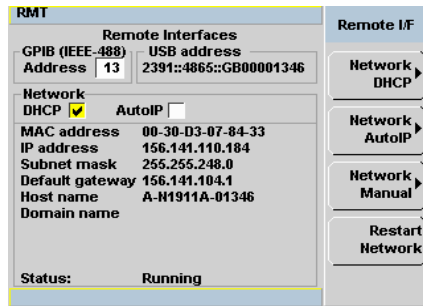

Figure 1-21 Typical LAN remote interface
- 1** Click , **Remote Interfaces** to display the remote interface settings (See Figure 1-21). Ensure that **AutoIP** is checked.
- 1 Click , **Remote Interfaces** to display the remote interfaces settings (See Figure 1-21).